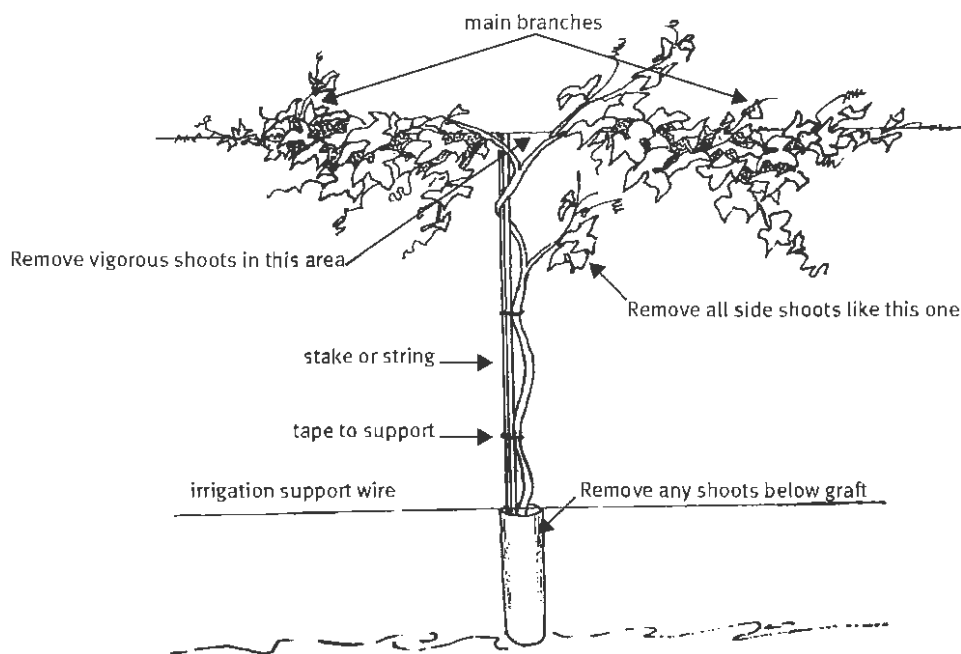

Figure 8.1 Training the young vine
1. Drive a long stake (that reaches the top wire) into the ground alongside the vine. Alternatively, install a string line from a short stake to the top wire or from the bottom wire to the top wire if a lower wire is used (see Figure 8.1).
2. Remove all side shoots above and below the graft, leaving a single leader, but retain any leaves on the leader (see Figures 8.1 and 8.2). On single-wire trellises and pergolas, continue to remove all side shoots (but not leaves) as they appear along the length of the leader until it reaches the top wire(s). On A-frame trellises, train suitably spaced side shoots onto and along the multiple wires on the sides of the A-frames.
5. When the leader is above the top wire, train it along the wire in the direction in which it is naturally growing (see Figure 8.1). Tape it at regular intervals (see Figure 8.3, page 72).
6. On single-wire trellises, select a side shoot near the junction of the leader and the wire and train it along the wire in the opposite direction (see Figure 8.1). Tape it at regular intervals. On A-frame trellises, pergolas and T-bar trellises, train more side shoots to the extra wires.
7. Cut back any vigorous shoots within 30 centimetres of the junction of the two main lateral branches (see Figure 8.1).